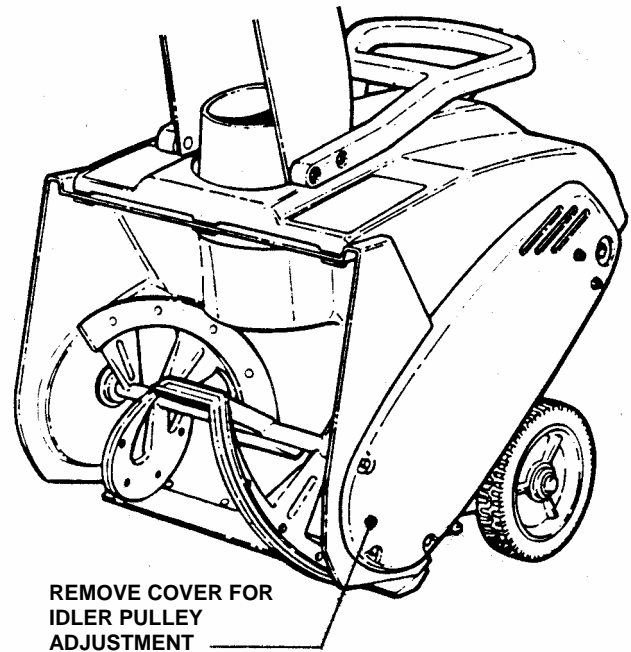

FIGURE 4.2
2. Remove belt cover. See Figure 4.2
1. Remove belt cover. See Figure 4.2.